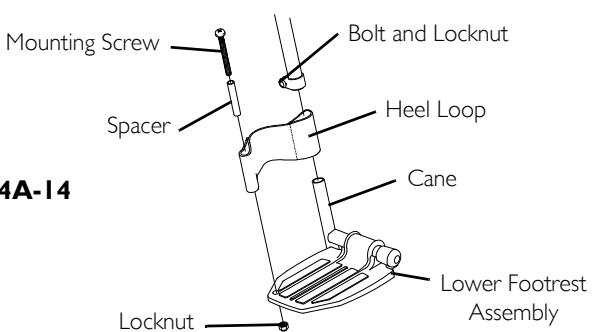

FIGURE 3 Adjusting the Elevating Legrest Assembly
3. Position the new heel loop as shown in FIGURE 3 and reverse STEPS 1-2 to reassemble.